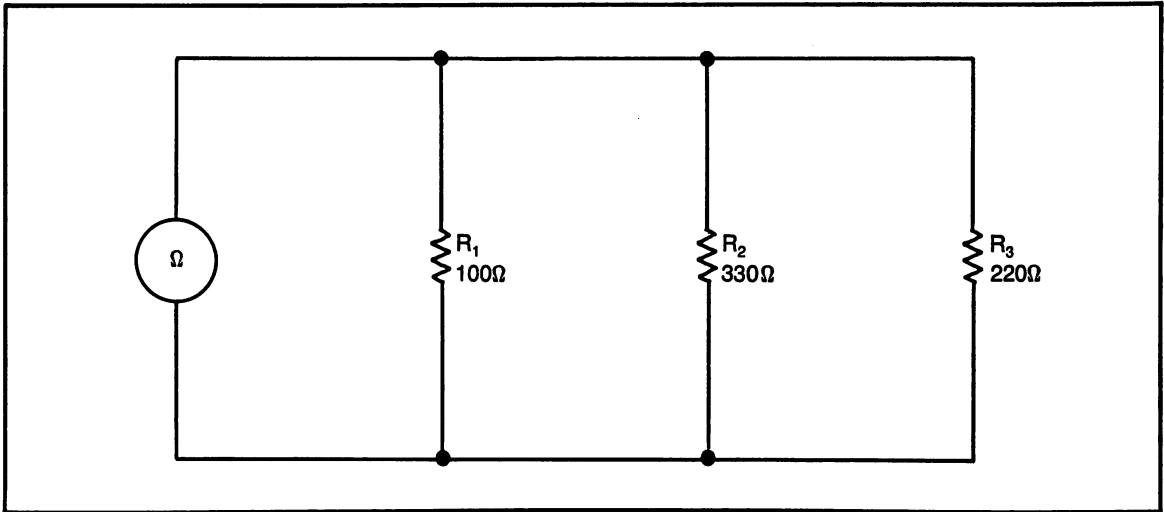

Fig. 9-35. An ohmmeter connected to a parallel circuit.
(1) Figure 9-35 shows three resistors connected in parallel. An ohmmeter is connected in place of the voltage source. Note: whenever using an ohmmeter, there must not be any other voltage connected to the circuit. First, calculate